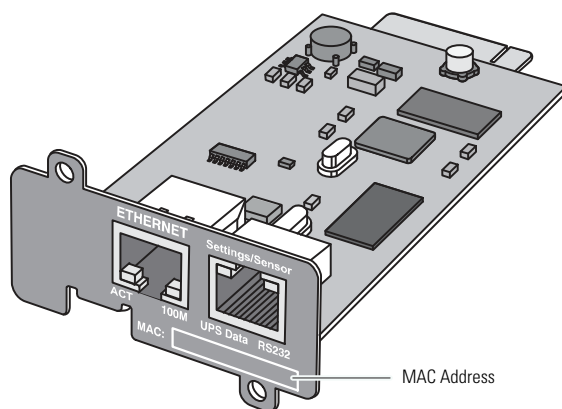

Figure 1. MAC Address Location
- The MAC address is located on the label on the front of the card (see Figure 1).